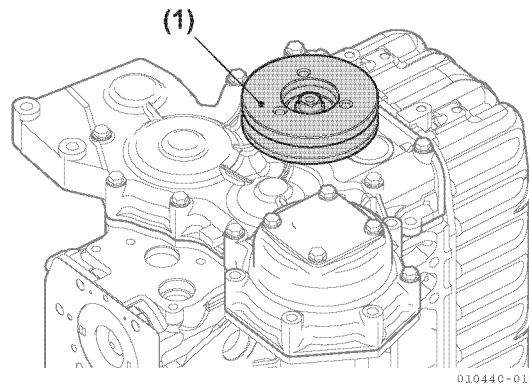

Figure 5-45
37. Loosen the nut holding the crankshaft V-pulley and remove the crankshaft V-pulley (**Figure 5-45**) with an extraction tool. When loosening the nut holding the V-pulley, be sure to use the correct tool to prevent rotation of the crankshaft.